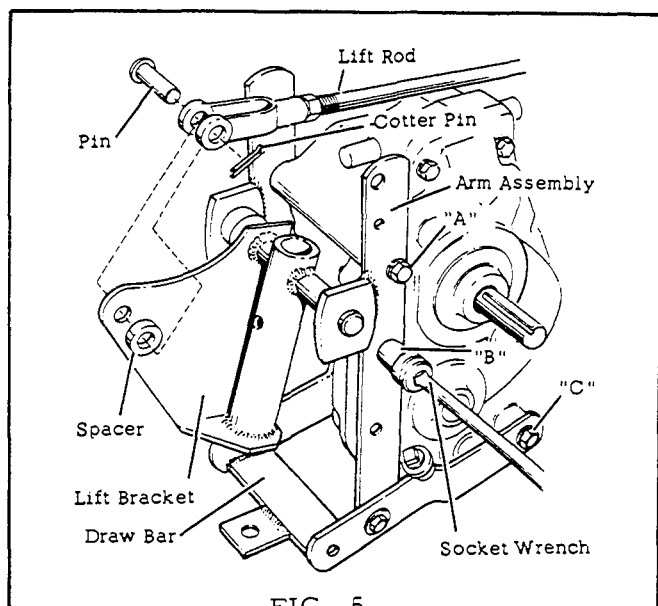

FIG. 5
6. Mount the drawbar, rear lift bracket, and arm assembly to the transmission as shown in Fig. 5 and fasten with hex capscrews (3 on each side) "A", "B", & "C".